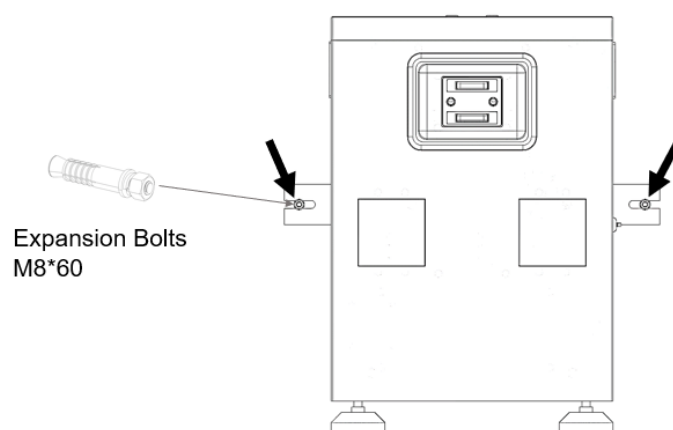

FIG.7
5. Install the device to the wall using the expansion bolts as shown in FIG. 7.